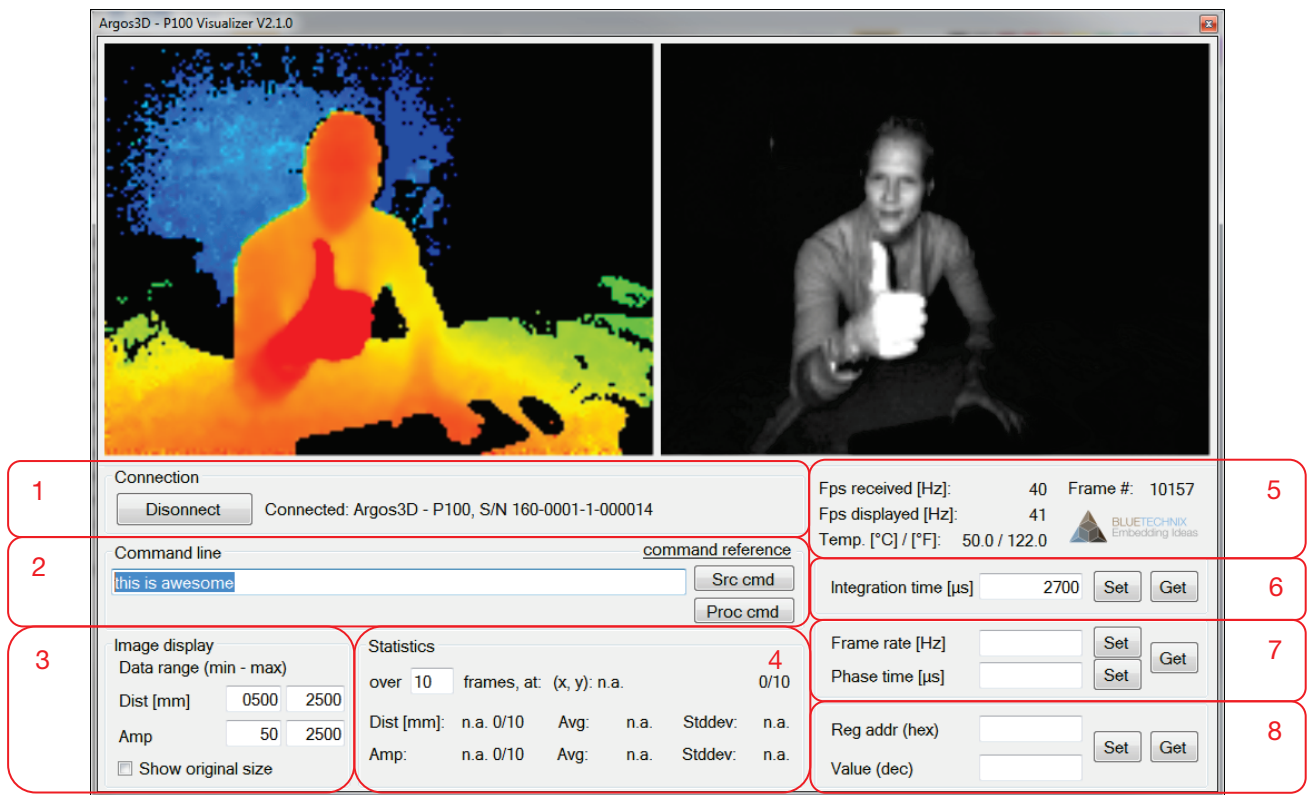

Figure 4-3: Visualizer screenshot with description
To apply source- or process-commands use the text-field from section 6 (see Figure 4-3). After the command has been entered press the “Src cmd” or the “Proc cmd” button for applying either a source- or a process-command.
4.1.3 Changing the color range (3)
To adjust the color range to a certain setup or scene use the min and max text-fields in the “Image display” section (3) (see Figure 4-3). Type in the minimum distance and amplitude expected and the maximum distance and amplitude expected. The color scheme will then be expanded from red to blue for the distance image and from black to white for the amplitude image, between the selected minimum and maximum.
4.1.4 Statistics (4)
The frame-rate can be changed using section 7 (see Figure 4-3).
To write or read any register from the camera use section 8 (see Figure 4-3). Type in the register address as hexadecimal value and the content as decimal value, then press the “set” button.